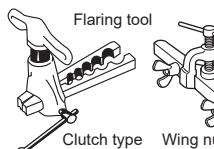

Fig. 4
- When routing the drain piping, make sure that the drain hose (1) is routed as shown. (Fig. 4)
- Flaring work (Fig. 4, 5). Firmly hold copper pipe in the dimension shown in the table. Select A in. (mm) from the table according to the tool you use.